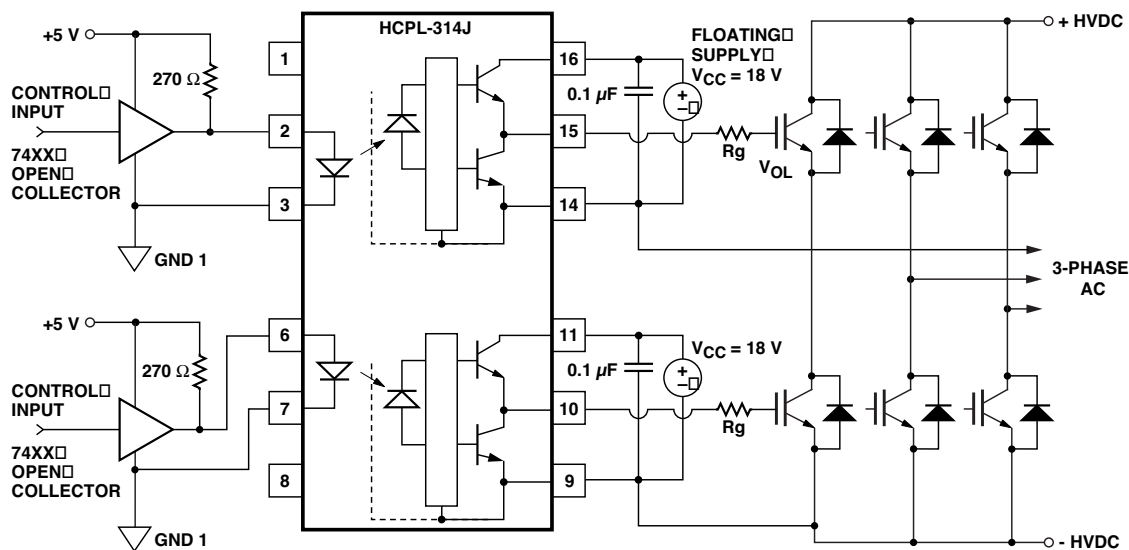
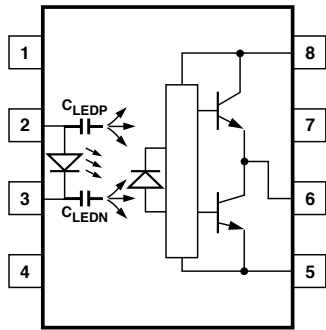
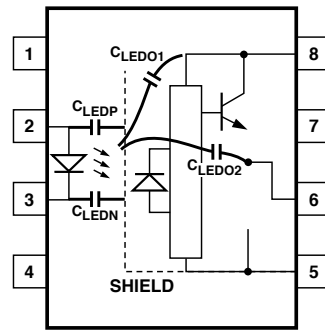
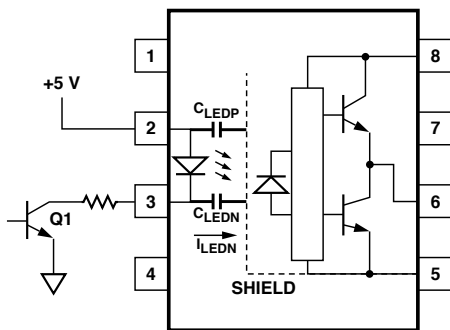

Figure 19. Recommended LED Drive and Application Circuit for HCPL-314J.
Figure 21. Optocoupler Input to Output Capacitance Model for Unshielded Optocouplers.
Figure 22. Optocoupler Input to Output Capacitance Model for Shielded Optocouplers.
Figure 24. Not Recommended Open Collector Drive Circuit.
To keep the IGBT firmly off, the HCPL-314J has a very low maximum V_{OL} specification of 1.0 V. Minimizing R_g and the lead inductance from the HCPL-314J to the IGBT gate and emitter (possibly by mounting the HCPL-314J on a small PC board directly above the IGBT) can eliminate the need for negative IGBT gate drive in many applications as shown in Figure 19. Care should be taken with such a PC board design to avoid routing the IGBT collector or emitter traces close to the HCPL-314J input as this can result in unwanted coupling of transient signals into
the input of HCPL-314J and degrade performance. (If the IGBT drain must be routed near the HCPL-314J input, then the LED should be reverse biased when in the off state, to prevent the transient signals coupled from the IGBT drain from turning on the HCPL-314J.) An external clamp diode may be connected between pins 14 & 15 and pins 9 & 10 (as shown in Figure 19) for the protection of HCPL-314J in the case of IGBTs switching inductive load.
Step 1: Calculate Rg minimum from the IOL peak specification. The IGBT and Rg in Figure 24 can be analyzed as a simple RC circuit with a voltage supplied by the HCPL-314J.
where $K_{ICC} \cdot Q_g \cdot f$ is the increase in ICC due to switching and KICC is a constant of 0.001 mA/(nC*kHz). For the circuit in Figure 19 with IF (worst case) = 10 mA, Rg = 32 Ω, Max Duty Cycle = 80%, Qg = 100 nC, f = 20 kHz and TAMAX = 85°C:
Without a detector shield, the dominant cause of optocoupler CMR failure is capacitive coupling from the input side of the optocoupler, through the package, to the detector IC as shown in Figure 21. The HCPL-314J improves CMR performance by using a detector IC with an optically transparent Faraday shield, which diverts the capacitively coupled current away from the sensitive IC circuitry. However, this shield does not eliminate the capacitive coupling between the LED and optocoupler pins 5-8 as shown in Figure 22. This capacitive coupling causes perturbations in the LED current during common mode transients and becomes the major source of CMR failures for a shielded optocoupler. The main design objective of a high CMR LED drive circuit becomes keeping the LED in the proper state (on or off) during common mode transients. For example, the recommended application circuit (Figure 19), can achieve 10 kV/μs CMR while minimizing component complexity. Techniques to keep the LED in the proper state are discussed in the next two sections.
The open collector drive circuit, shown in Figure 24, can not keep the LED off during a $+dV_{CM}/dt$ transient, since all the current flowing through C_{LEDN} must be supplied by the LED, and it is not recommended for applications requiring ultra high CMR₁ performance. The alternative drive circuit which like the recommended application circuit (Figure 19), does achieve ultra high CMR performance by shunting the LED in the off state.